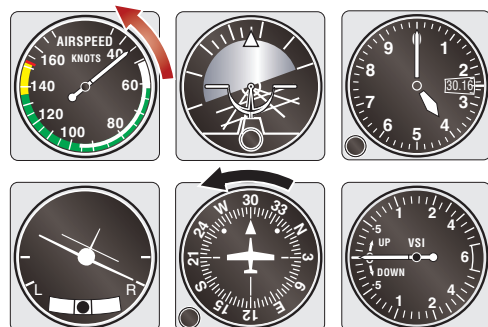

Figure 29-26 Question 13.
- What is the flight situation in figure 29-26? Cruise power is applied.